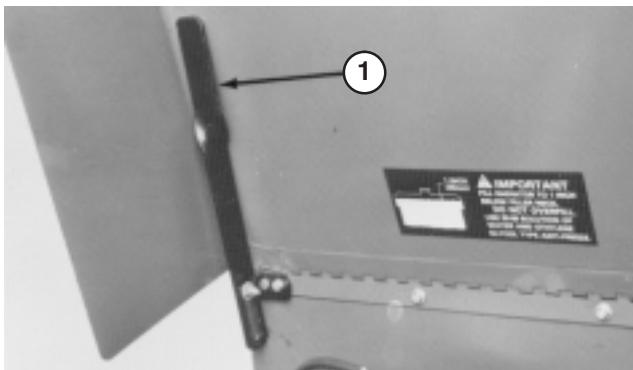

Figure 21
3. Slide bottom of hood prop (Fig. 21) out of retaining bracket. Lower hood prop, pivot upward, then downward to prop up hood.